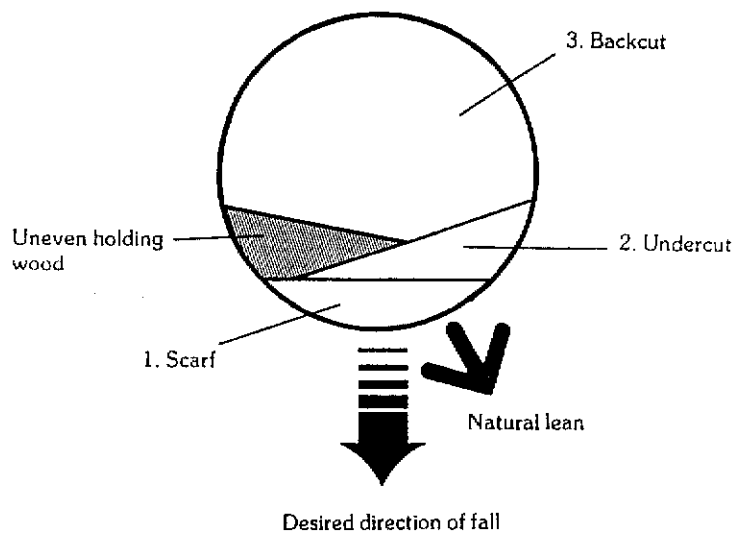

Figure 7:3
- (1) Cut a standard scarf
- (2) Continue the horizontal cut of the scarf to undercut the holding wood on the side of the natural lean.
- (3) Cut a standard back cut for the uneven holding wood. (Thicker wood on opposite side to the natural lean.) See Figure 7:3